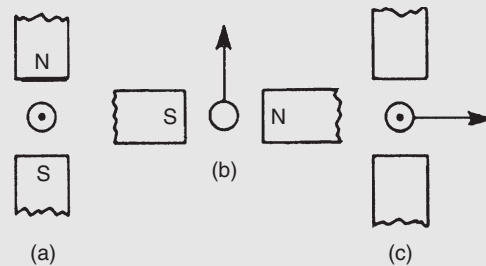
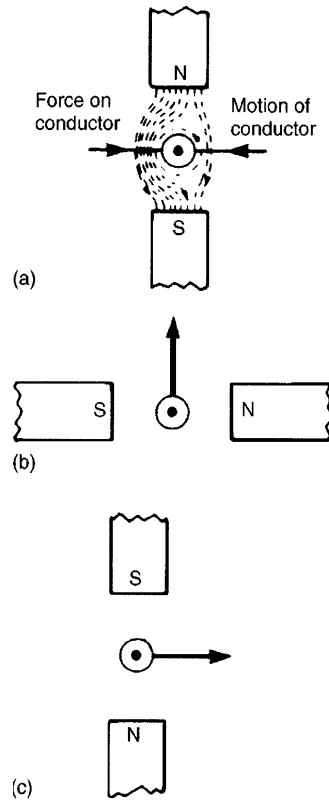

Figure 9.4
Figure 9.5
Problem 5. The diagrams shown in Fig. 9.4 represents the generation of e.m.f.s. Determine (i) the direction in which the conductor has to be moved in Fig. 9.4(a), (ii) the direction of the induced e.m.f. in Fig. 9.4(b), (iii) the polarity of the magnetic system in Fig. 9.4(c).
- (i) Using Lenz's law: The field due to the magnet and the field due to the current-carrying conductor are shown in Fig. 9.5(a) and are seen to reinforce to the left of the conductor. Hence the force on the conductor is to the right. However, Lenz's law states that the direction of the induced e.m.f. is always such as to oppose the effect producing it. **Thus the conductor will have to be moved to the left.**
i.e. **towards the viewer or out of the paper**, as shown in Fig. 9.5(b)
- (iii) The polarity of the magnetic system of Fig. 9.4(c) is shown in Fig. 9.5(c) and is obtained using Fleming's right-hand rule.